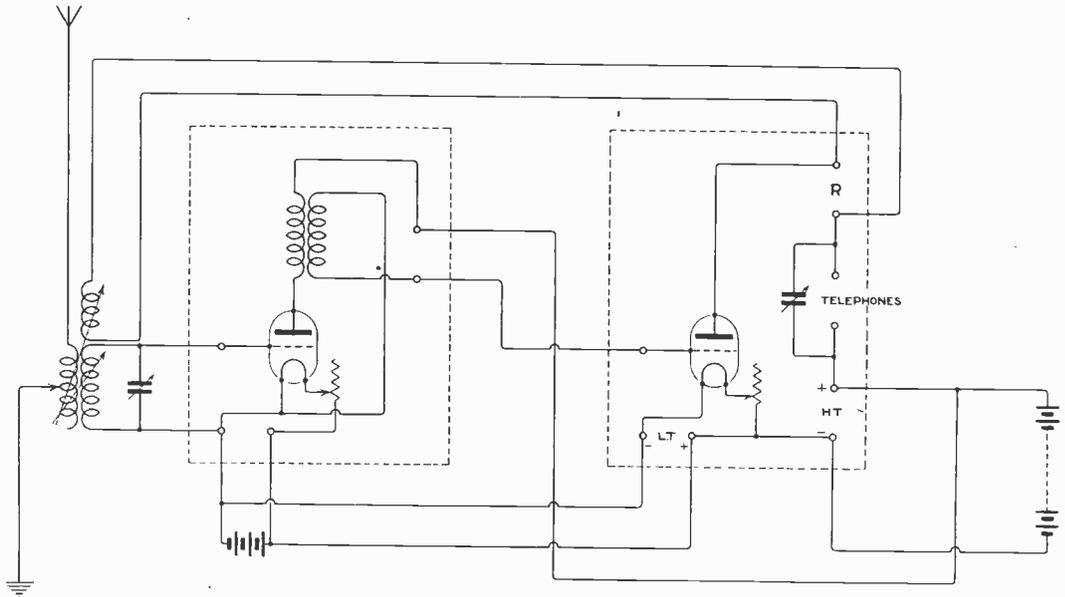

Fig. 6
(1) We have no additional information about this set, but think it probable that it is similar to a resistance capacity amplifier with iron core chokes instead of the anode circuit resistances.
(2) A.T.I. 7" x 5" of No. 20, no condenser being necessary. Reaction coil 4" x 4" of No. 26.
(3) Without a diagram of your panel we cannot be certain that this can be done. If it is possible, the connections would be on the lines of the diagram (Fig. 6) which will show you how your panel should